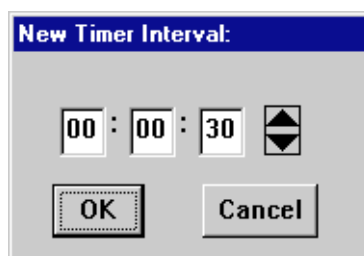

Figure 6-7. New Timer Interval Text Box
1. Click on the clock symbol (🕒) next to the **Poll Rate (sec)** text box. The New Timer Interval text box, Figure 6-7, will appear.